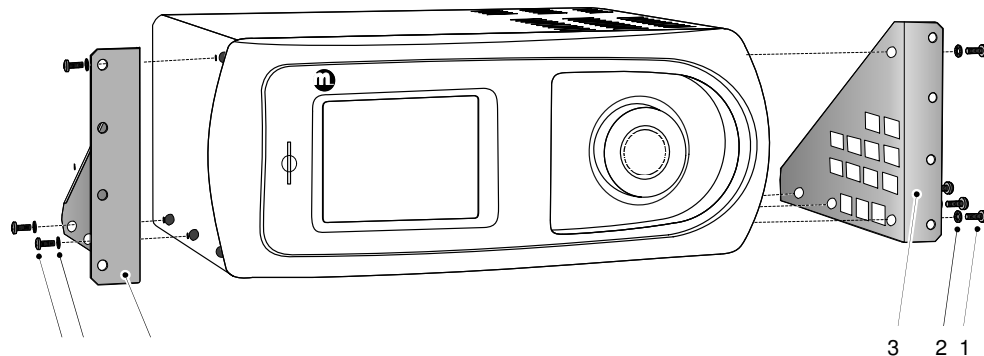

Figure 2.8 *Conversion to Rack Mount*
To convert an Optisure RS to a rack mounted version a rack mounting kit (Part No. S8K-PKI) is required. This conversion pack comprises two steel wings (3) and eight cap screws (1). Each wing bolts to the side of the instrument with four screws as shown in *Figure 2.8*.